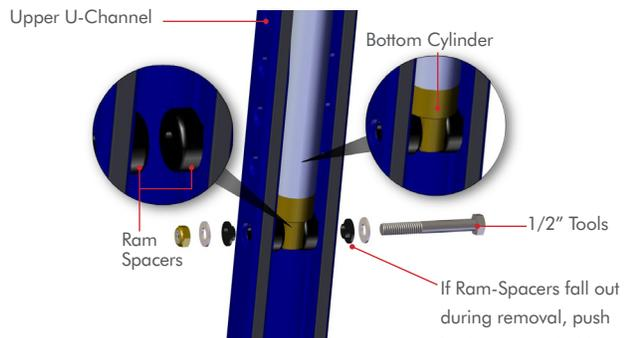

Figure 2
STEP 2: Remove the **Bottom Cylinder** from the **Upper U-Channel** using a **1/2" socket & wrench**. Push bottom of cylinder up into **U-Channel** and slide it forward past the **Ram Spacers** to remove it. **FIG 2**